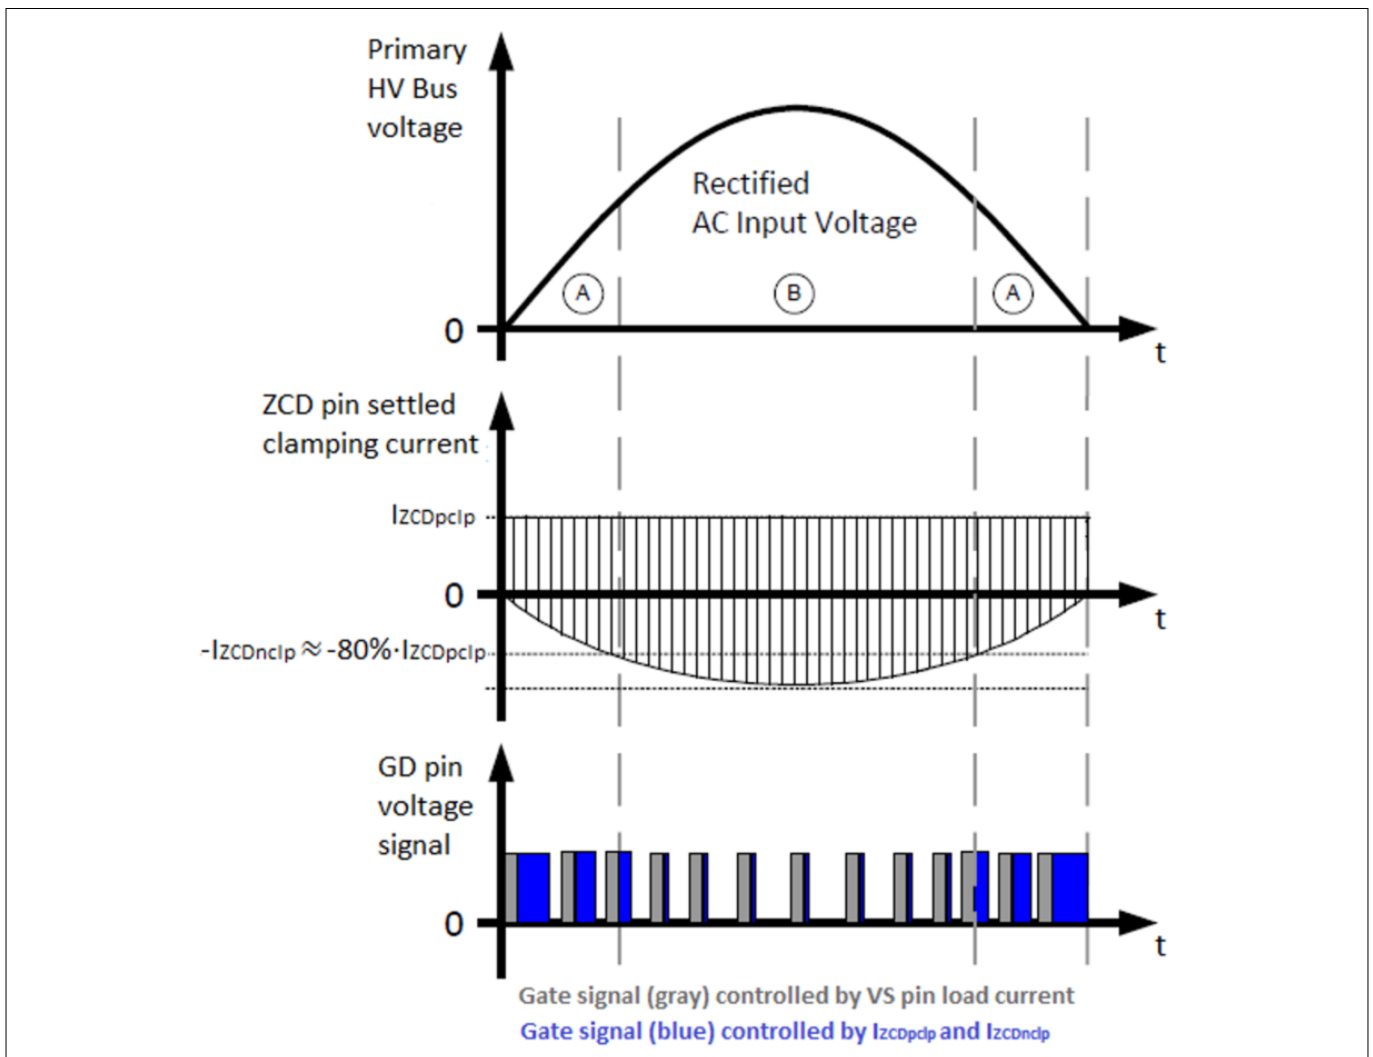

Figure 9 ICL88xx THD correction with on-time extension near AC input voltage zero crossing
As shown in Figure 9 area A, ICL88xx increases the on-time extension near AC input voltage zero crossing, where  $I_{ZCDnclp}$  is less than 80% of  $I_{ZCDpclp}$ .
- the on-time extension effect for THD correction (see Figure 9)